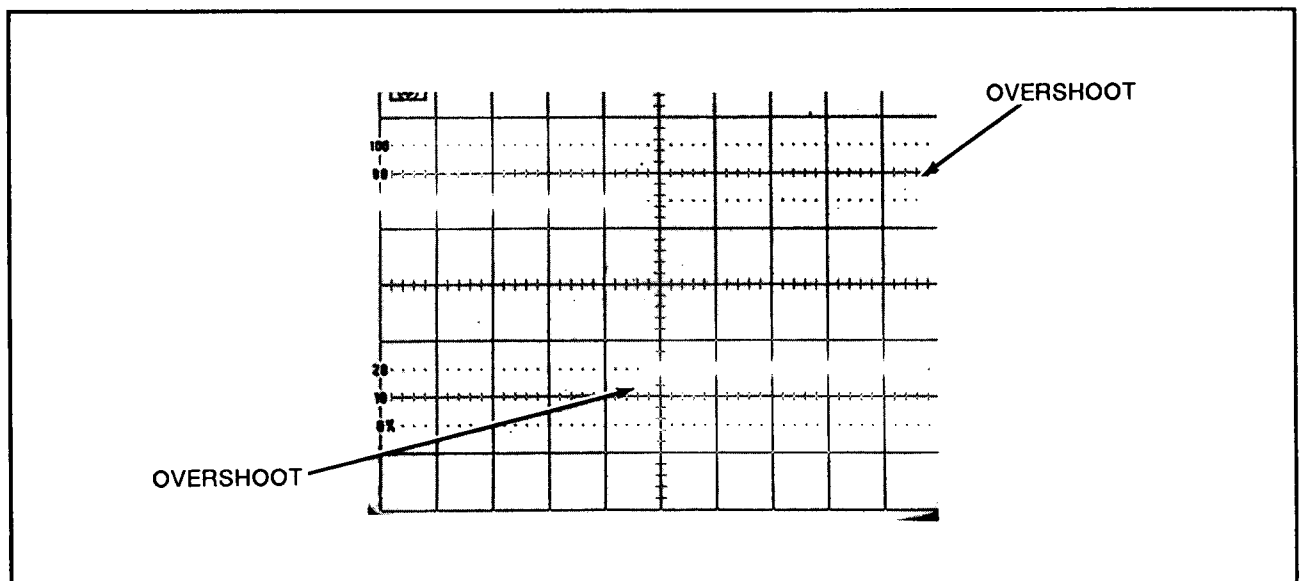

Figure 5-11. Square Wave Overshoot
- Adjust A1C87 to obtain an ideal square wave on the oscilloscope display. Adjust out any overshoot visible on the waveform. (Be careful not to back adjustment screw out entirely.) See *Figure 5-11* for an example of overshoot.
- Adjust A1C89 to obtain an ideal square wave on the oscilloscope display. Adjust out any overshoot visible on the waveform. (Be careful not to back screw out entirely.) See *Figure 5-11* for an example of overshoot.